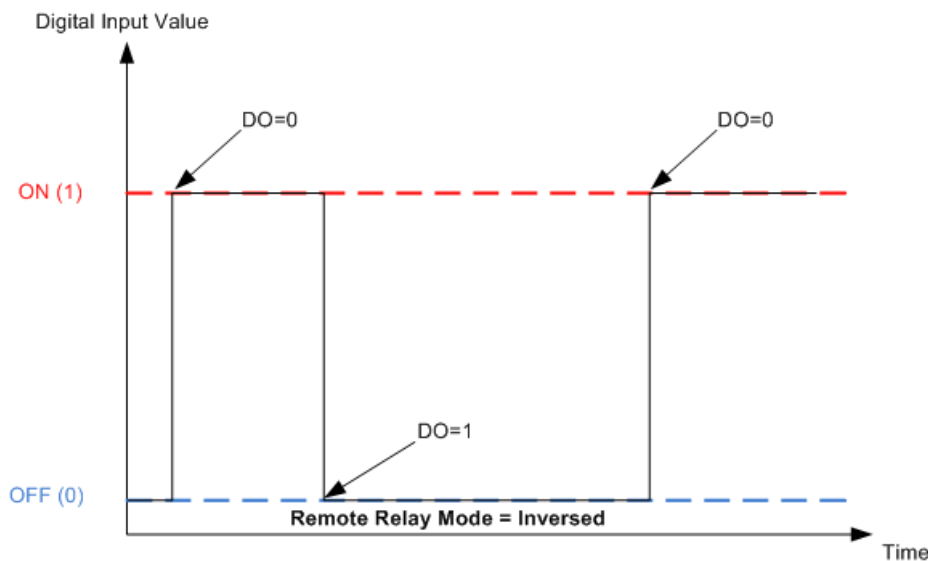

Figure 7.12. Controlling remote relay when **Remote Relay Mode** parameter is "Inversed"
- **0 (Off)** – The counter is incremented on the falling edge (1 -> 0). With MQTT enabled and **MQTT Publish Mode=Edge Triggered** the falling edge triggers a notification message. The e-Mail (if enabled) is sent on falling edge (Figure. 7.12).